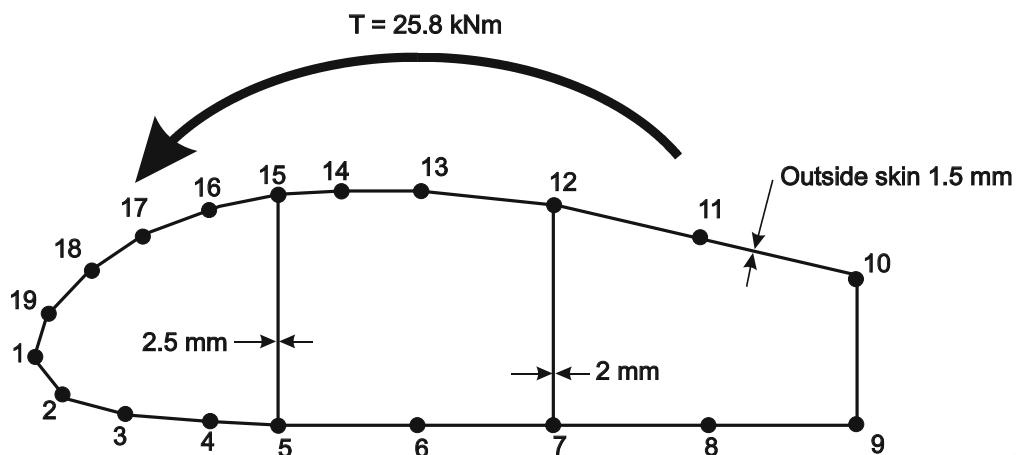

Figure 4: Three cell wing section with applied torque
- The multi-cell aircraft wing of Figure 4 is applied a torque due to the lift and drag distribution. The beam has been idealised and the coordinates and area of the booms are given in Table Question 4a. The material properties for all skin segments are given in Table Question 4b. Determine the shear flow distribution and rate of twist for this wing.